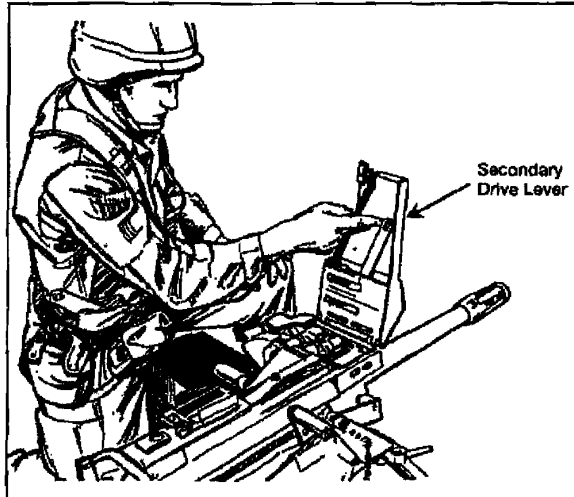

Figure 071-030-0005-3. Indexing the feed slide assembly
- 4. Charge the weapon (figure 071-030-0005-4).**